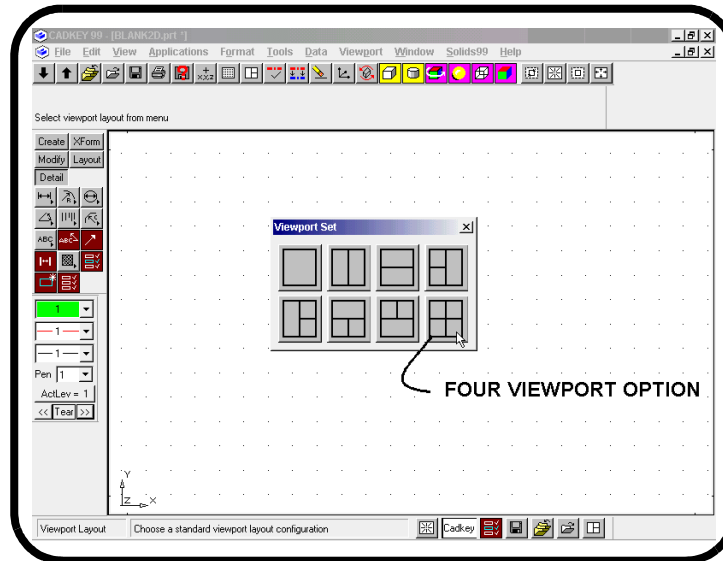

Figure 6-1, Selecting the four viewport option.
3. From the **MENU BAR**, select **Viewport, Layout** and select the **four** viewport option (as shown in Figure 6-1).